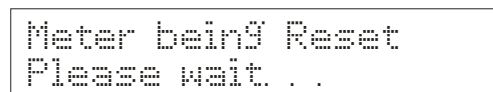

Figure 186
- If you selected **Yes**, the screen flashes *Meter being Reset, Please wait...* See **Figure 186**. The meter then returns to measurement mode.